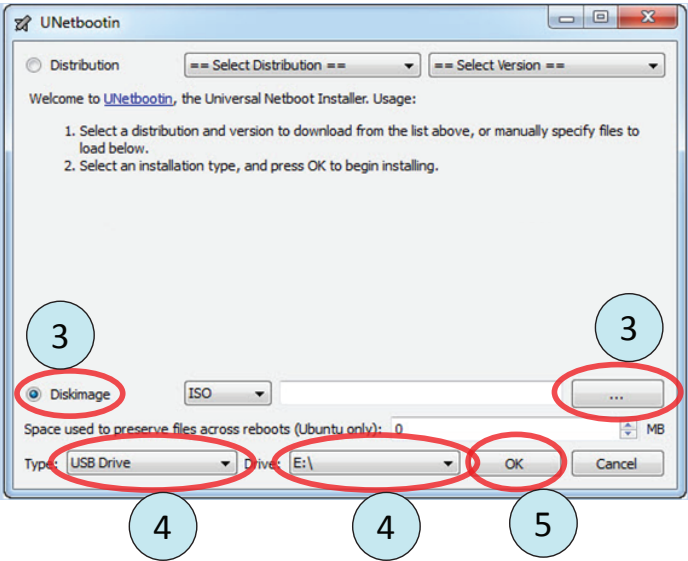

Figure E3. Initial UNETBOOTIN application window.
- 2) Run the UNETBOOTIN application. The UNETBOOTIN window (shown in figure E3) will open.
- 3) Select the **Disk Image** option, then click the '...' button (both are circled in figure E3). Locate and select the Dialed In ISO file you downloaded from the Jersey Jack Pinball® website.
- 4) Ensure that the **USB Drive** is selected under **Type** and the USB stick you inserted earlier ("E:" in this example) is selected under **Drive** (both are circled in figure E3).